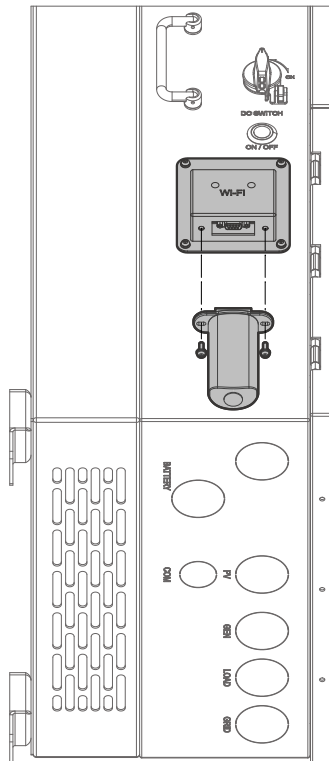

Figure 41: Connecting Wi-Fi dongle to Sol-Ark 15K-2P-N
- Reassemble the dongle housing and plug the dongle into the Sol-Ark. Secure with screws (see figure 41). You will see solid red and green lights after a couple of minutes.